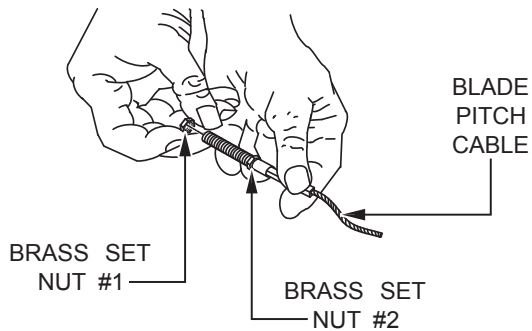

**Figure 12. Blade Pitch Cable Adjustment (Quick Pitch™ Handle)**
2. For trowels equipped with a **Quick Pitch™** handle, squeeze the trigger lock and push the T-handle towards the engine to release tension on the blade pitch cable. See Figure 12.